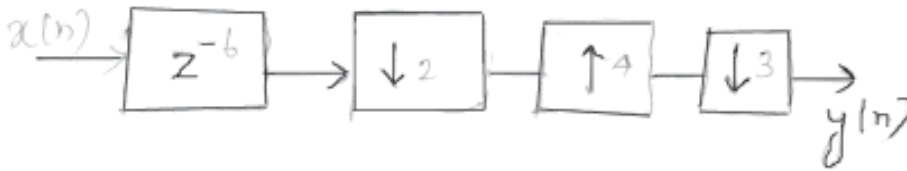

fig. 1.
- 10. a) Develop an expression for the output $y(n)$ as a function of input $x(n)$ for the multirate structure as shown in fig.1. 8